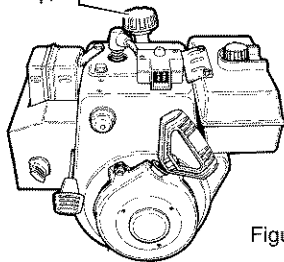

Figure 16
Check the crankcase oil level before starting the engine and after each five (5) hours of continuous use. See Figure 16. Add S.A.E. 5W30 motor oil as needed. Tighten fill cap/dipstick securely each time you check the oil level.